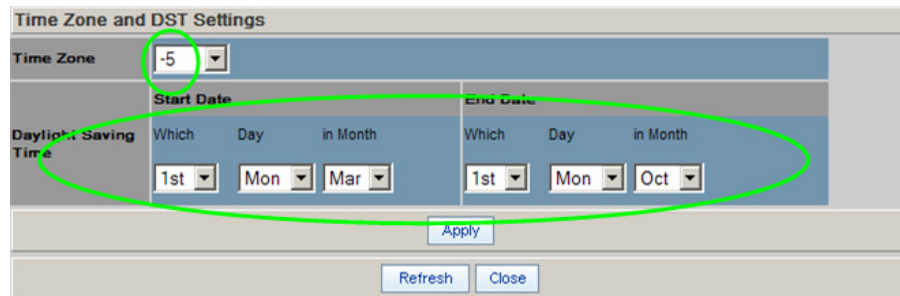

Figure 1-75 Time Service - Time Zone/Daylight Saving Time Setup
1. In the **Time Zone** drop-down, select the correct time zone based upon Greenwich Mean Time (GMT) (Figure 1-75).